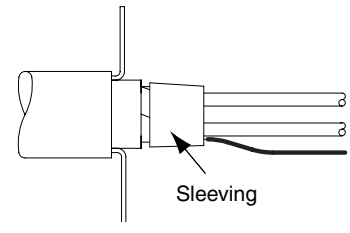

Fig. 6
- 3.5. To insulate the foil ends a suitable piece of 10 mm long shrink tubing or neoprene stretch tubing or a 10 mm wide lap of PVC tape may be used (See Fig. 6).